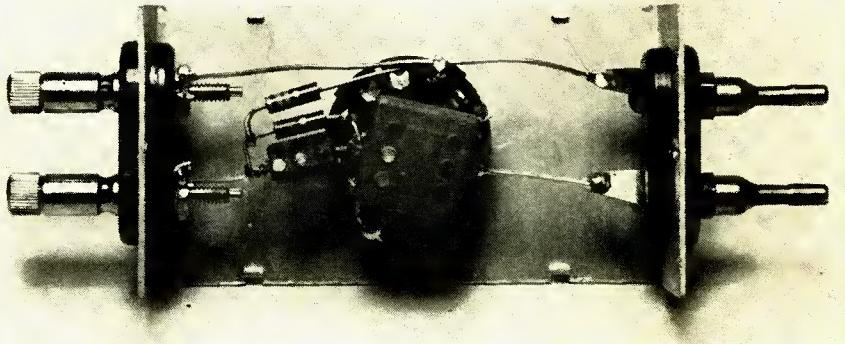

Fig. 7. Internal construction of the unit, showing how all components are mounted on switch.
Fig. 7. Block schematics illustrating how the distribution of feedback can be modified in a two-loop feedback amplifier: in the original amplifier (A) the inner loop gives 6 db feedback, with an attenuation in the feedback path of 12 db across a gain of 18 db; this gives a resultant gain of 12 db; the over-all gain is controlled chiefly by the 20 db attenuation in the over-all feedback; with  $34 + 12 = 46$  db total forward gain, this loop gives 26 db feedback. By increasing the inner-loop feedback to 10 db (reducing the attenuation in the feedback path from 12 db to 8 db), the output section with feedback now drops to 8 db gain (B), and the over-all gain is now only  $34 + 8 = 42$  db. As a result, the outer-loop feedback is now 22 db instead of 26 db. These figures are approximations based on the formula  $A = 1/B$ , which is not too accurate here; in practice there would be a change in gain of 3 db feedback on the inner loop and of about 2.7 db on the outer loop, leaving a net change of about 0.3 db (lower). A slight reduction in outer-loop feedback could offset this.
To achieve this the feedback resistors in the outer loop need not as a rule be changed, because increasing the feedback in the inner loop alters the effective gain in the outer loop and so automatically reduces the feedback in the outer loop by approximately the same amount as the inner loop feedback is increased. *Figure 7* illustrates this. Do not try to vary this more than about 3 to 6 db from the origi-
quite straightforward. The entire wiring is constructed on a two-circuit, six-position switch, and mounted in an aluminum box 2 $\frac{1}{4}$  × 2 $\frac{1}{4}$  × 4 in. The input terminals are a set of banana plugs, spaced at  $\frac{3}{4}$  in. so as to plug directly into a signal generator. The output is taken from a pair of banana jacks spaced at the same distance. Figure 7 shows an inside view of the unit.